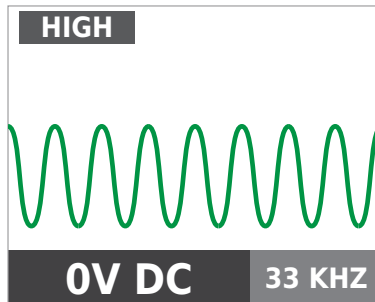

Figure 3.2b
3. Select HIGH signal mode for most applications. Screen will appear as shown in Figure 3.2b